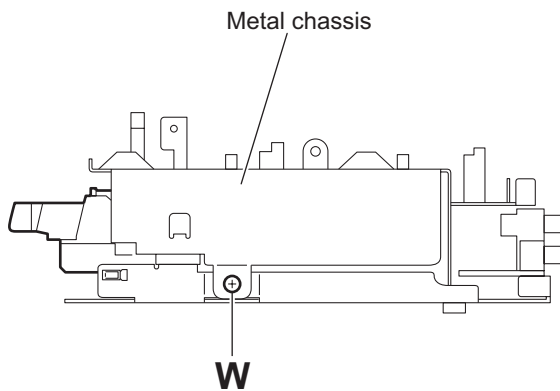

Fig.25
3.1.12 Removing the DVD mechanism assembly (See Figs.25 to 28)
- (1) From the right side of the main body, remove the screw **W** attaching the metal chassis. (See Fig.25.)